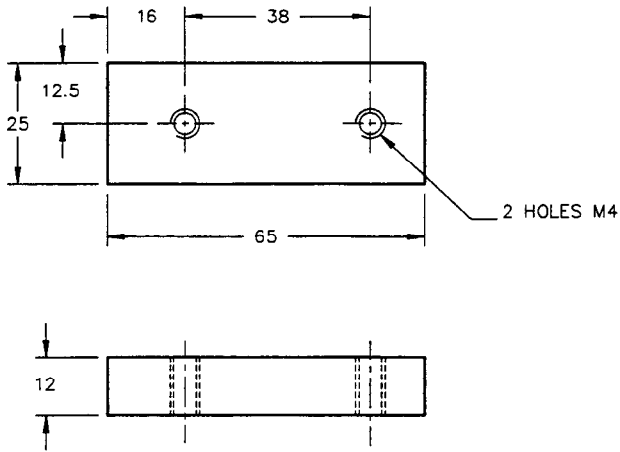

Figure 2 - Mounting Block, Switch
- g. Manufacture mounting bracket and mounting blocks, as shown at Figures 2, 3, and 4.